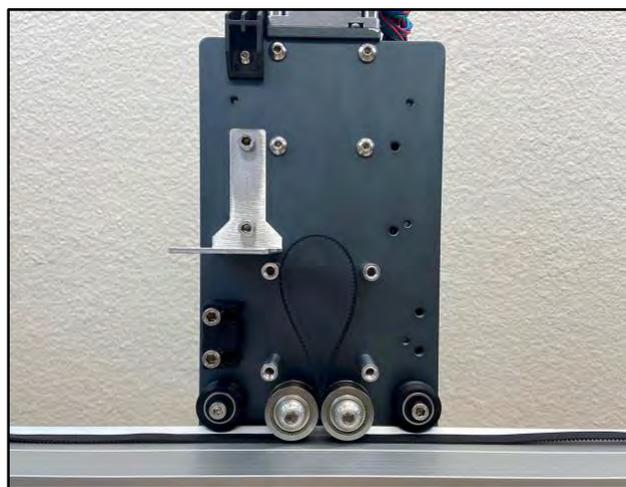

Figure 28
2. Push a large loop of belt up between the idlers. See *Fig. 28*.